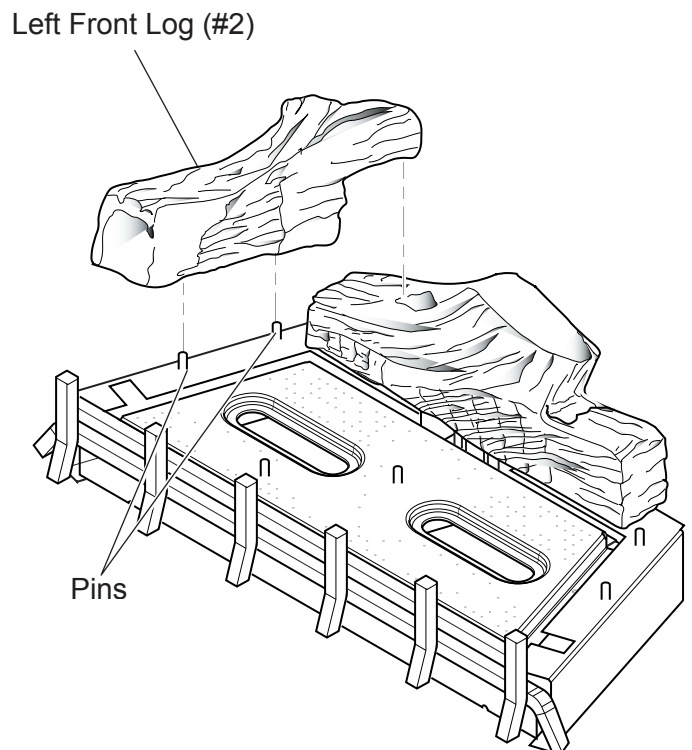

Figure 19 - Installing Left Log #2
4. Line up the holes in the bottom of the left base log (#2) with two (2) pins on the left side of insert. Install left base log. *See Figure 19.*